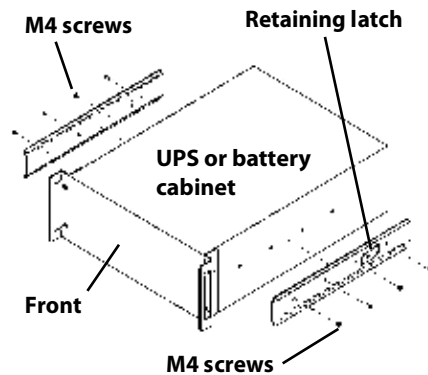

Figure 15: Fastening the inner members
5. Prepare the UPS or battery cabinet (the “equipment”) for rack mounting. The equipment may require additional parts to be added or removed. After it is prepared, lay the equipment in the rack-mounting position. Fasten the inner members from Step 1 to the equipment on both sides as shown in Figure 15 with eight M4 screws provided in the kit. Make sure the retaining latch is near the rear of the equipment as shown (see Figure 15).